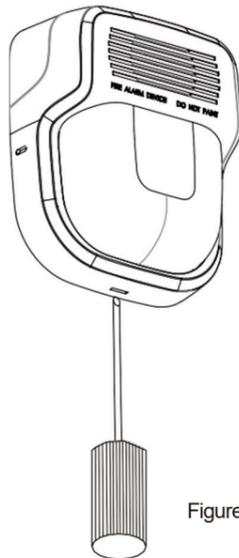

Figure 7: Cover Removal
5. To remove the appliance, insert a small flat-bladed screwdriver into the bottom opening 1/2" as shown in Figure 7. Then pry off cover with the screwdriver and then unscrew device.